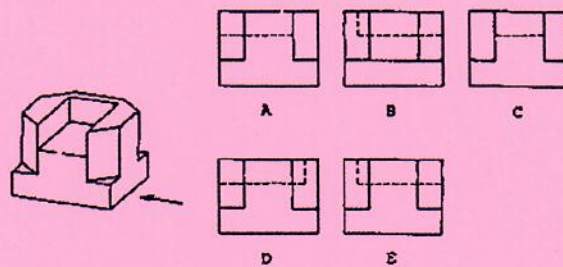

Figure 6 Work-piece viewed from the side.
- f) If you look in the direction of the arrow of the work-piece in Figure 6, which view represents it correctly? [2 marks]